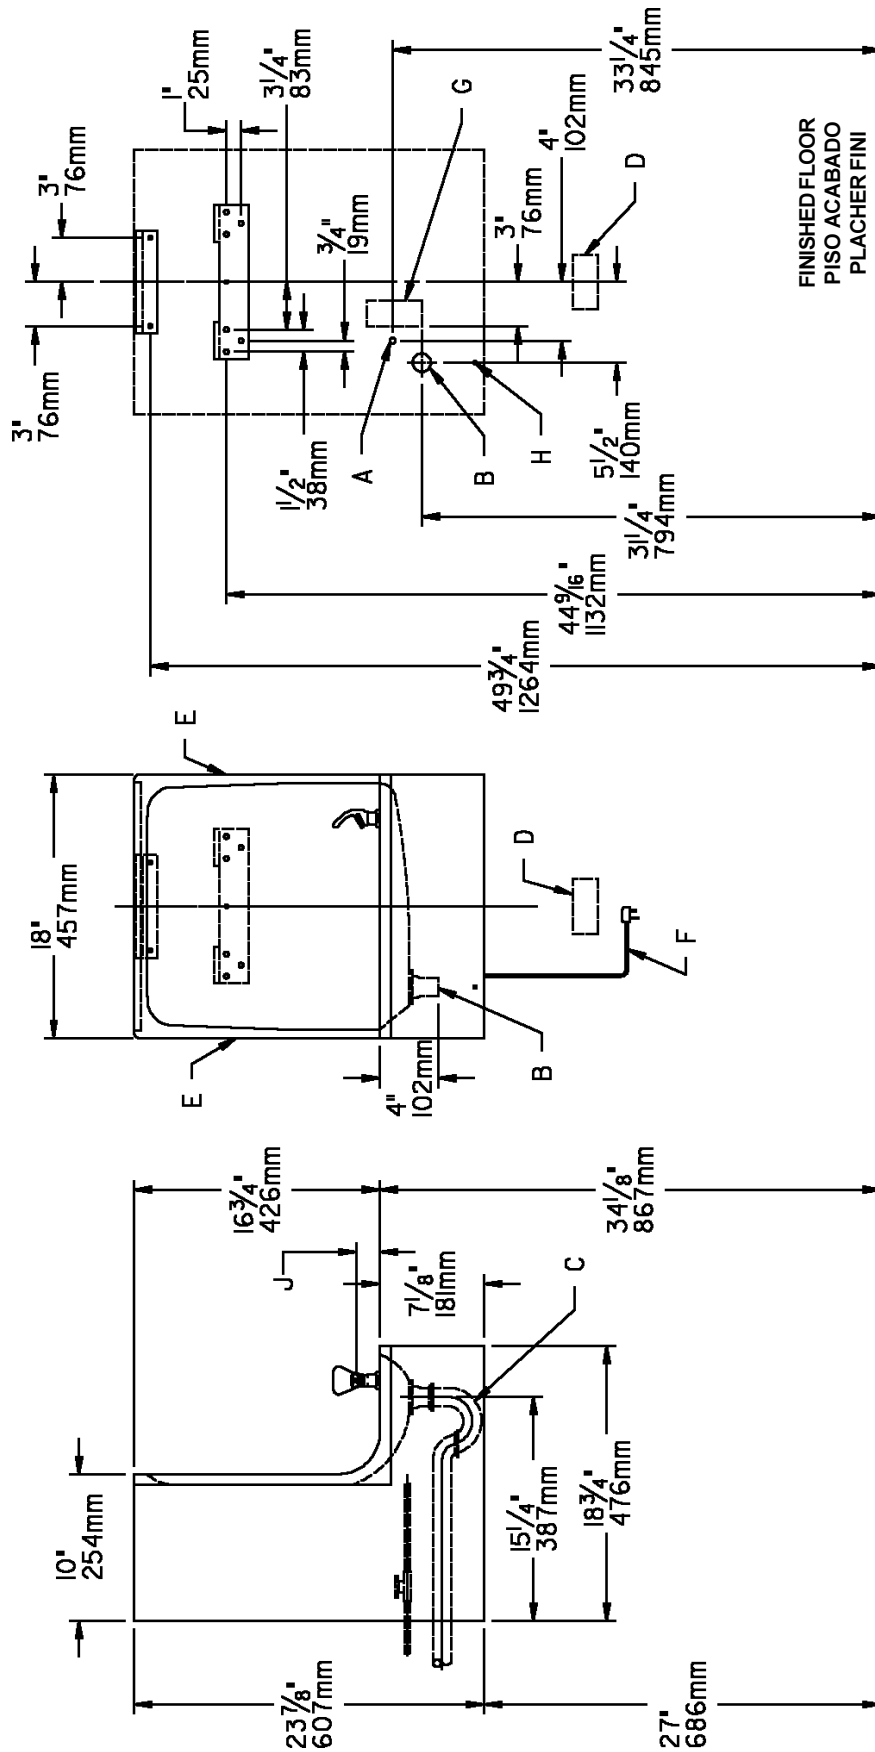
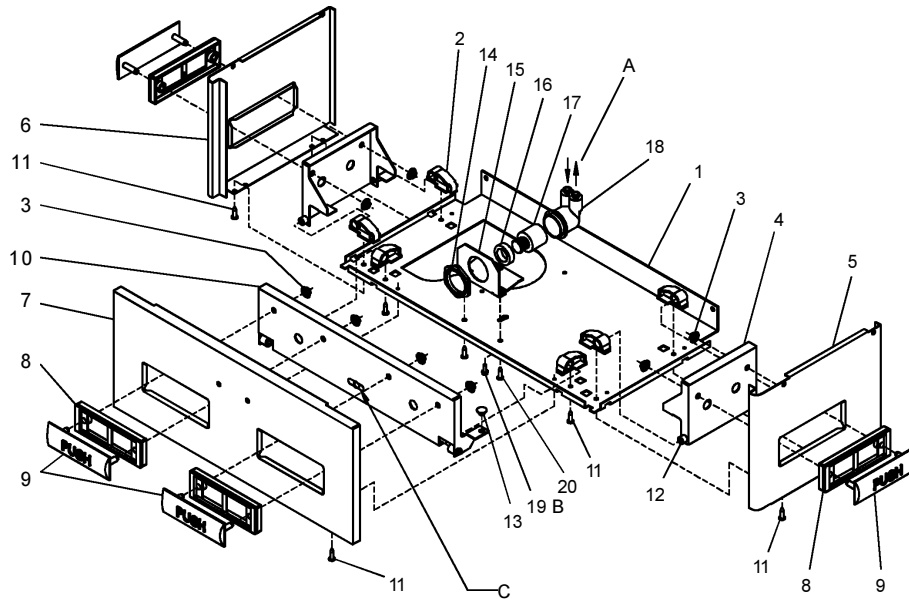

FIG. 2
FIG. 3
See Fig. 3 (on Page 3)
- 1) Remove hanger bracket fastened to back of cooler by removing one (1) screw.
- 2) Mount the hanger bracket and trap as shown in Figure 2. **NOTE:** Hanger Bracket MUST be supported securely. Add fixture support carrier if wall will not provide adequate support.
- 4) Hang the cooler on the hanger bracket. Be certain the hanger bracket is engaged properly in the slots on the cooler back as shown in Figure 2.
- 5) Loosen the two (2) screws holding the lower front panel at the bottom of cooler base and two (2) screws at the top. Remove the front panel and set aside.
- 8) Stream height is factory set at 35 PSI. If supply pressure varies greatly from this, adjust screw, accessible by removing front panel (Item 7, Fig. 3). CW adjustment will raise stream and CCW adjustment will lower stream. For best adjustment, stream should hit basin approximately 6-1/2" (165mm) from bubbler.
- 9) Replace the front panel and secure by retightening four (4) screws.